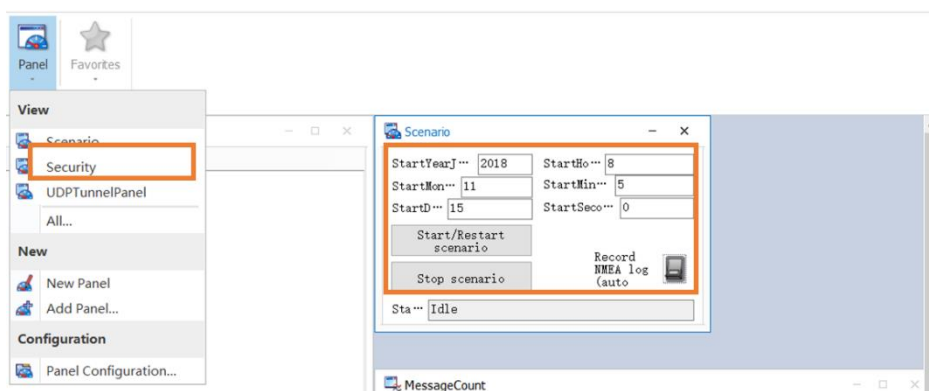

Figure 20: configure GNSS parameter
- Run the CANoe program and open the Scenario front panel. Configure the start time of GNSS simulation, as shown in the example (Figure 20)
- Open your project with the CANoe software. Start the Scenario Manager tool and import the previously constructed C-V2X scenario file : ICW Scenario (Temp).scn (Figure 20)